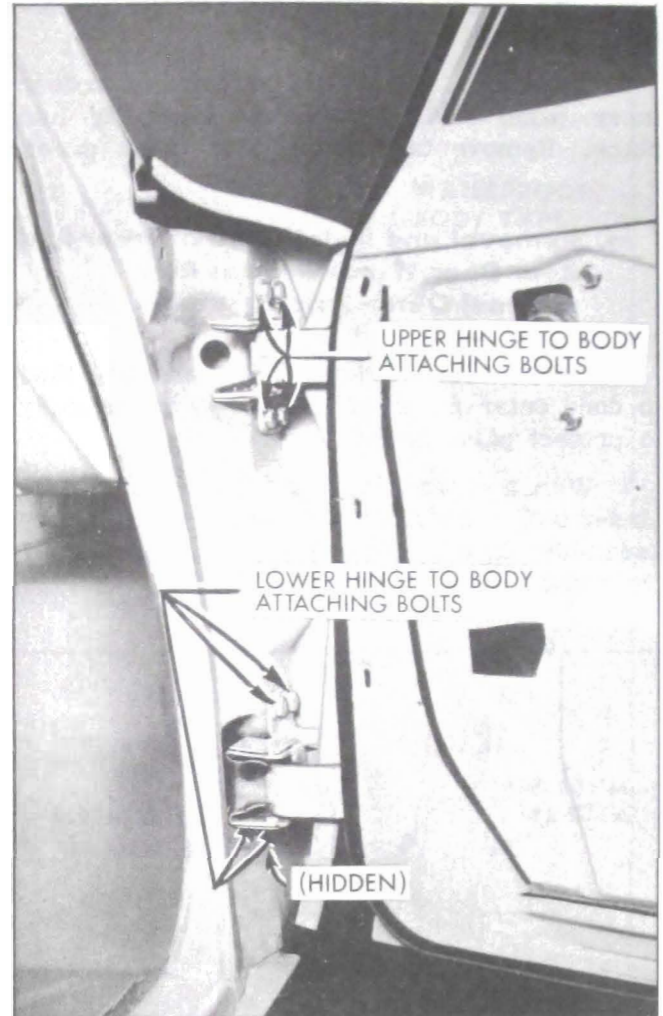

Figure 13-36—Front Door Assembly and Hinge Removal
5. With aid of helper to properly support door, remove bolts securing upper and lower hinges to body and remove door assembly with attached hinges from body. See Figure 13-36.
3. Loosen hinge attaching bolts and shift door to desired position; then tighten hinge attaching bolts. See Figure 13-36.